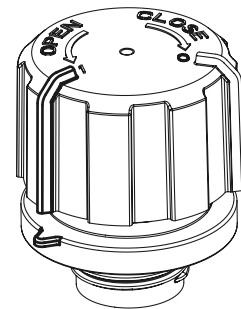

Fig.3
- 4) Breather closure. After fitting the cover (see point 3), turn it following the CLOSE arrow (clockwise) until the first click. In this position the cover is locked by means of the teeth fitted in the relative stop housing of the knurling: this is a guarantee against accidentally unscrewing. In this position the index on the cover marked with 1 is in line with the index on the flange of the threaded connector (Fig. 3).
- 6) To reach breather closure (index on the cover marked with 1 in line with the index on the threaded connector) from sealing closure (index on the cover marked with 0 in line with the index on the threaded connector) just turn the cover following the OPEN arrow (anticlockwise) until the click (Fig. 3).